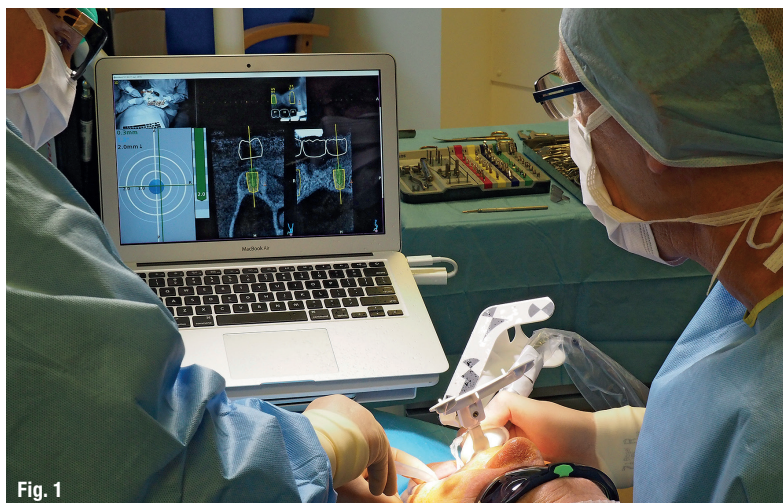
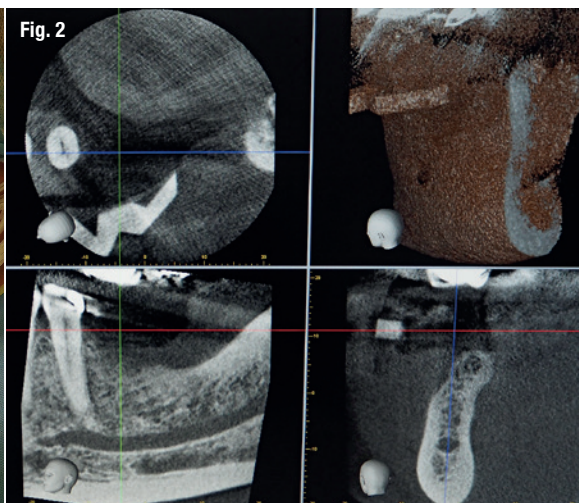

Fig. 1
Fig. 2
**Fig. 1:** An illustrative image of Dr Burgess using Navident. – **Fig. 2:** A CBCT scan was taken two weeks prior to surgery. – **Fig. 3:** The treatment plan was created immediately after the scan. – **Fig. 4:** The patient was able to see the proposed treatment displayed by the Navident software.
What makes Navident dynamic navigation stand out is it precisely guides the surgeon to prepare and place the implant in a pre-determined position (Fig. 1). This allows me to achieve greater accuracy and certainty than I have previously been able to, using conventional protocols. Whilst there is no physical guide, a simple scanning template (NaviStent) is used to hold the fiducial in place whilst taking the CT scan, and secure the jaw reference (JawTag) for the navigated osteotomy.
In this case, the NaviStent was fabricated, the fiducial marker attached and a CBCT scan taken two weeks prior to surgery (Fig. 2). The treatment plan was created immediately after the scan (Fig. 3), with the patient present. He was able to see the proposed treatment displayed by the Navident software and appreciated that great care was being taken to achieve the optimum implant positioning, with minimal risk of potential complications (Fig. 4). The patient was impressed with, and reassured by, the state-of-the-art technology.